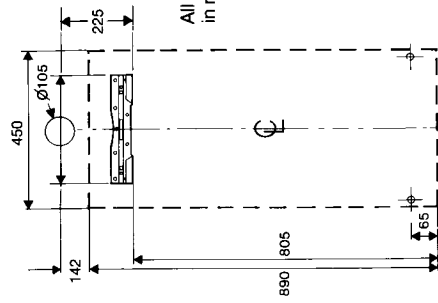

Fig. 13
**5.4 Mounting the Appliance (Fig 13)**
Alternatively, position bracket and holes to dimensions in fig 13.
Refer to fig 13 and figs 14-18 for relevant dimensions for locating the hole. Where it is remote from the boiler take special care to ensure hole is at the correct level so that the finished flue is horizontal.
- 5.5.19** When the flue and appliance are finally positioned screw the lower frame to the wall (fig 13)